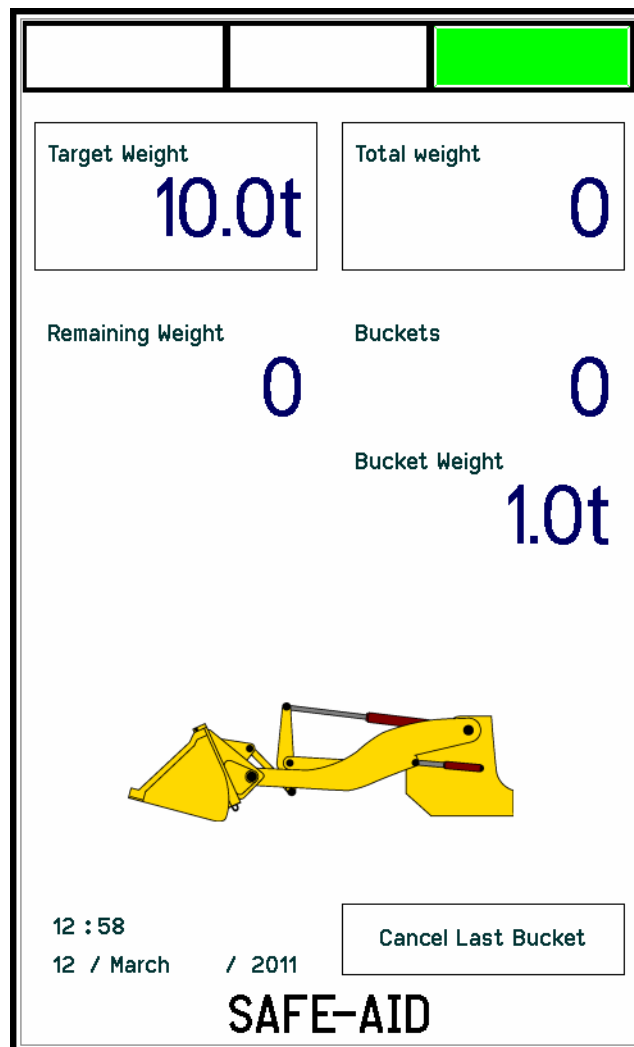

FIGURE 5
4. TARGET WEIGHT – FIGURE 5 & 6
The **Target Weight** is the weight required by you and this can be set from 0.1 to 999.9 metric tons. To select the required weight press the **Target Weight** box and **Figure 5** will appear. If you would like to edit the Target Weight press **Yes** if not and you want to go back to the working screen press **No**.
5. TOTAL WEIGHT – FIGURE 5